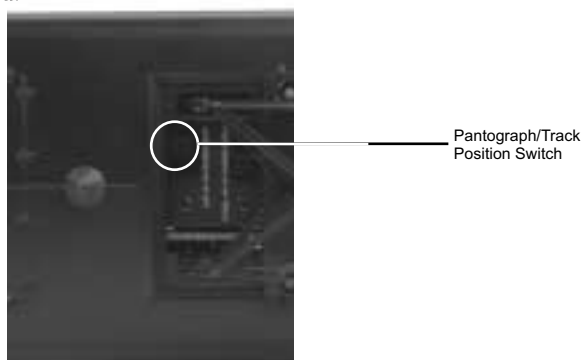

Figure 4
The Automatic Operating Pantographs can be used to obtain power from an overhead cantenary system. In order to obtain power from an operating overhead cantenary move the selector switch from the track position to the pantograph position as shown in figure 4.
1. To access the gear box, remove the cab from the chassis by unscrewing the body mount screws as seen in Figure 4 and lifting the cab from the chassis.
2. Once the cab is removed, remove the trucks by unscrewing the black Phillips motor mount screw located on the underside of the drive trucks (see Fig. 4).